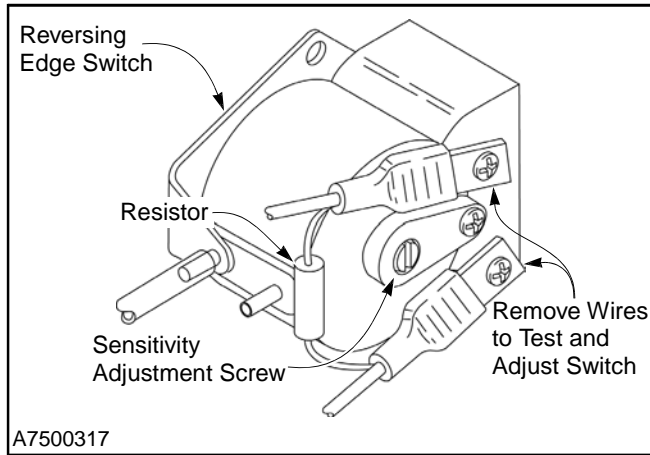

Figure 63
1. The reversing edge switch is a normally open contact. The PVC hose is on the lower air input post. (See Figure 63.)